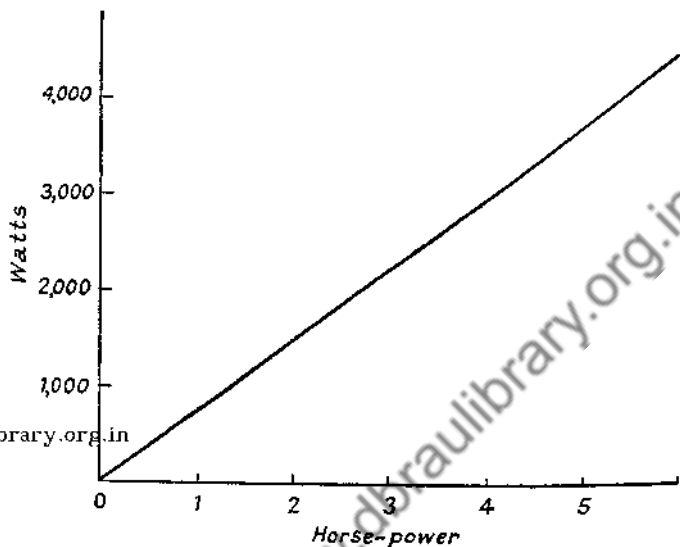

Fig. 63
(1) If 1 h.p. = 746 watts ( $W$ ), construct a graph for converting horse-power to watts for a range of 0–5 h.p. Use the graph (fig. 63) to find (a) the equivalent of 1.25 h.p. in watts; (b) the equivalent of 1000 watts in h.p.